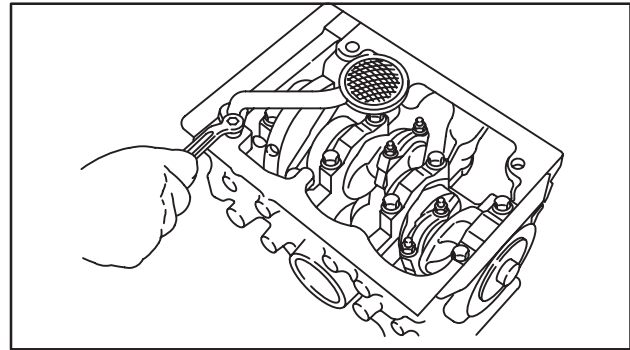

Fig. 7 – Installing Oil Pick Up
1. Install gasket, oil pick-up tube and strainer, Fig. 7.